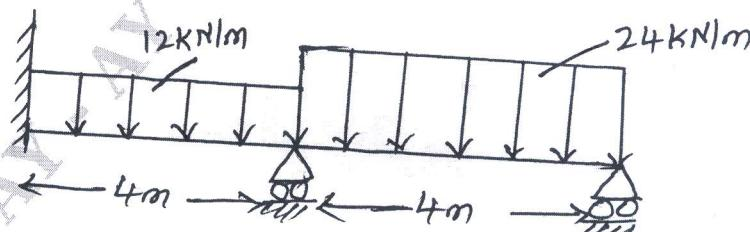

Fig Q9
- 9 For the beam shown in Fig Q9, determine the end reaction and deflection at mid span. Take $E = 200 \text{ GPa}$, $I = 4 \times 10^6 \text{ mm}^4$